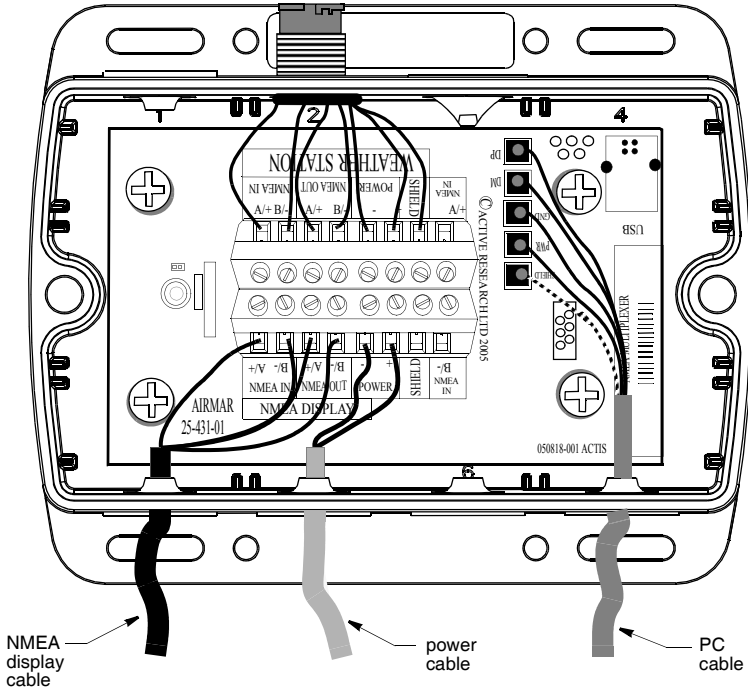

Figure 9. Wiring an NMEA display to a Combiner
- Push approximately 100mm (4") of the cable through the grommet (see Figure 9). To ease sliding, apply alcohol to the cable jacket.